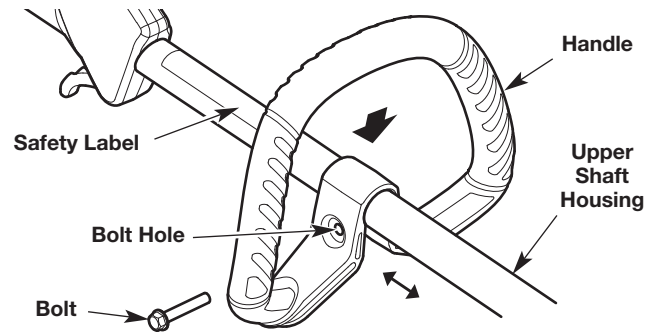

Fig. 2
1. Push the handle down onto the upper shaft housing (Fig. 2). Make sure the bolt hole faces to the right (Fig. 2).
2. Insert the bolt into the bolt hole and push it through (Fig. 2). Tighten the bolt with a flat-head screwdriver, but do not tighten the bolt completely.
3. Hold the unit in the operating position (Fig. 15). Move the handle up or down the upper shaft housing to a comfortable location (Fig. 2). Make sure the handle is positioned beyond the end of the safety label (Fig. 2).
1. Loosen the bolt with a flat-head screwdriver (Fig. 2).
2. Hold the unit in the operating position (Fig. 15). Move the handle up or down the upper shaft housing to a comfortable location (Fig. 2). Make sure the handle is positioned beyond the end of the safety label (Fig. 2).